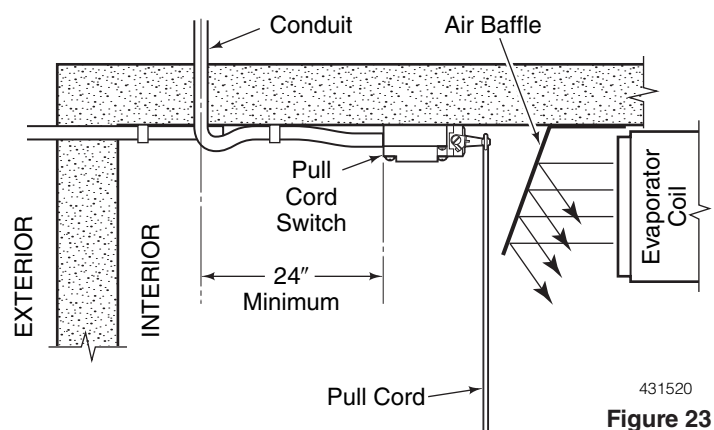

Figure 23
2. Mount the pull cord switch to the wall or ceiling using the switch mounting holes or the mounting plate provided. Locate the switches at least 24" from the conduit penetration through the ceiling or wall. See *Figure 23*.